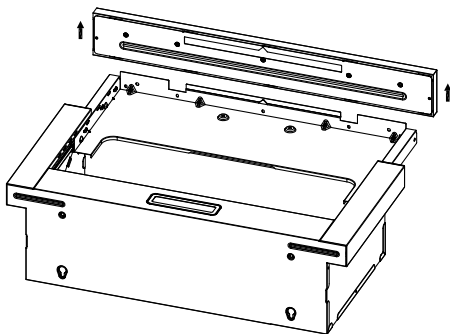

Fig 5
- Unscrew all of the five screws and pull up the front fascia (fig 4 and fig 5).